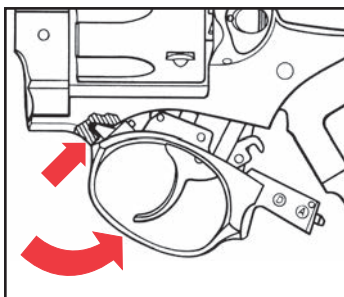
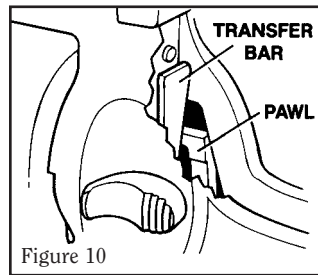

Figure 8
Figure 10
6. Use mainspring assembly to depress trigger guard lock plunger located inside frame at rear of trigger guard. Simultaneously pull down and remove trigger guard assembly (see Figures 8 & 9).
2. Hook front of trigger guard into recess in frame (see Figure 8, p. 18). Align pawl in its recess in the frame and be sure transfer bar is in correct position in rear of firing pin. Swing trigger guard upward into position in frame then allow latch to re-engage. If solid resistance is felt when swinging trigger guard into frame, or if trigger guard will not lock into position, re-check position of pawl and transfer bar (see Figure 10).